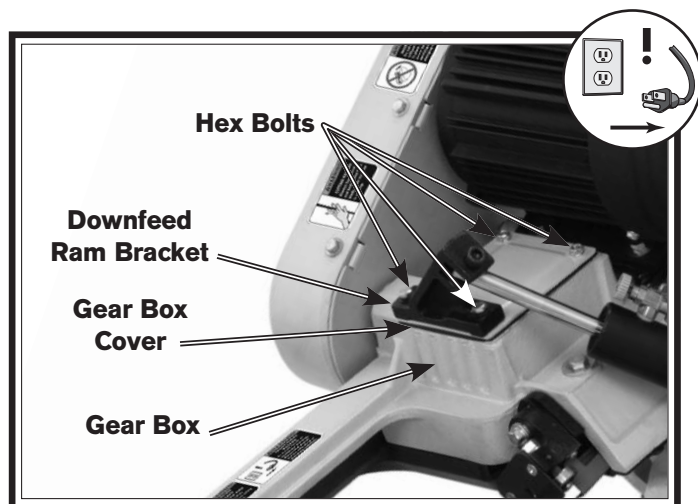

Figure 49. Gear box location.
3. With the help of another person, carefully remove the saw from the stand and place it on a workbench. Use wooden blocks to support the machine so that the gearbox cover is horizontal, as shown in **Figure 49**. This will prevent spilling of oil in the following steps. Make sure the machine is sufficiently supported and stable so that it will not shift during this procedure.